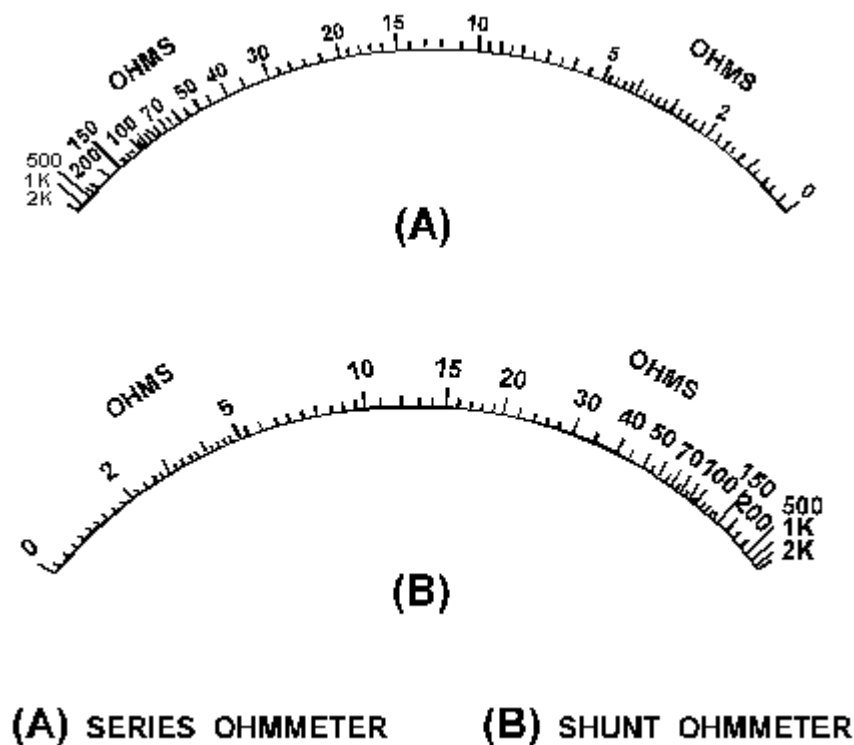
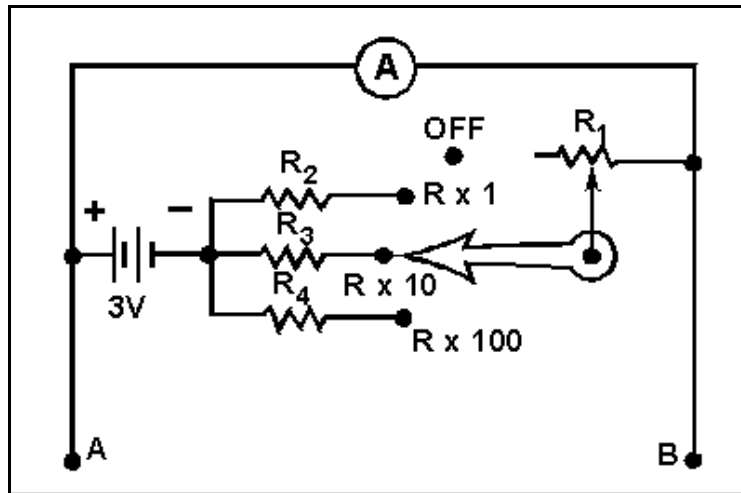

Figure 1-34.—Series and shunt ohmmeter scales.
Figure 1-35.—A shunt ohmmeter with internal range resistors.
The ohmmeter described to this point is known as a series ohmmeter, because the resistance to be measured is in series with the internal resistors and the meter movement of the ohmmeter. Another type of ohmmeter is the **SHUNT OHMMETER**. In the shunt ohmmeter, the resistance to be measured shunts (is in parallel with) the meter movement of the ohmmeter. The most obvious way to tell the difference between the series and shunt ohmmeters is by the scale of the meter. Figure 1-34 shows the scale of a series ohmmeter and the scale of a shunt ohmmeter.
Figure 1-34(A) is the scale of a series ohmmeter. Notice "0" is on the right and " $\infty$ " is on the left. Figure 1-34(B) is the scale of a shunt ohmmeter. In the shunt ohmmeter " $\infty$ " is on the right and "0" is on the left. A shunt ohmmeter circuit is shown in figure 1-35.
In figure 1-35,  $R_1$  is a rheostat used to adjust the  $\infty$  reading of the meter (full-scale deflection).  $R_2$ ,  $R_3$ , and  $R_4$  are used to provide the  $R \times 1$ ,  $R \times 10$ , and  $R \times 100$  ranges. Points A and B represent the meter leads. With no resistance connected between points A and B the meter has full-scale current and indicates